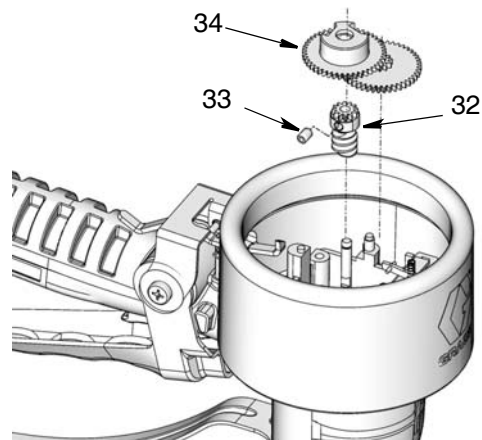

FIG. 29
5. Use a 2 mm hex wrench to remove the gear set-screw (33). Remove the gears (32, 34) (FIG. 29).